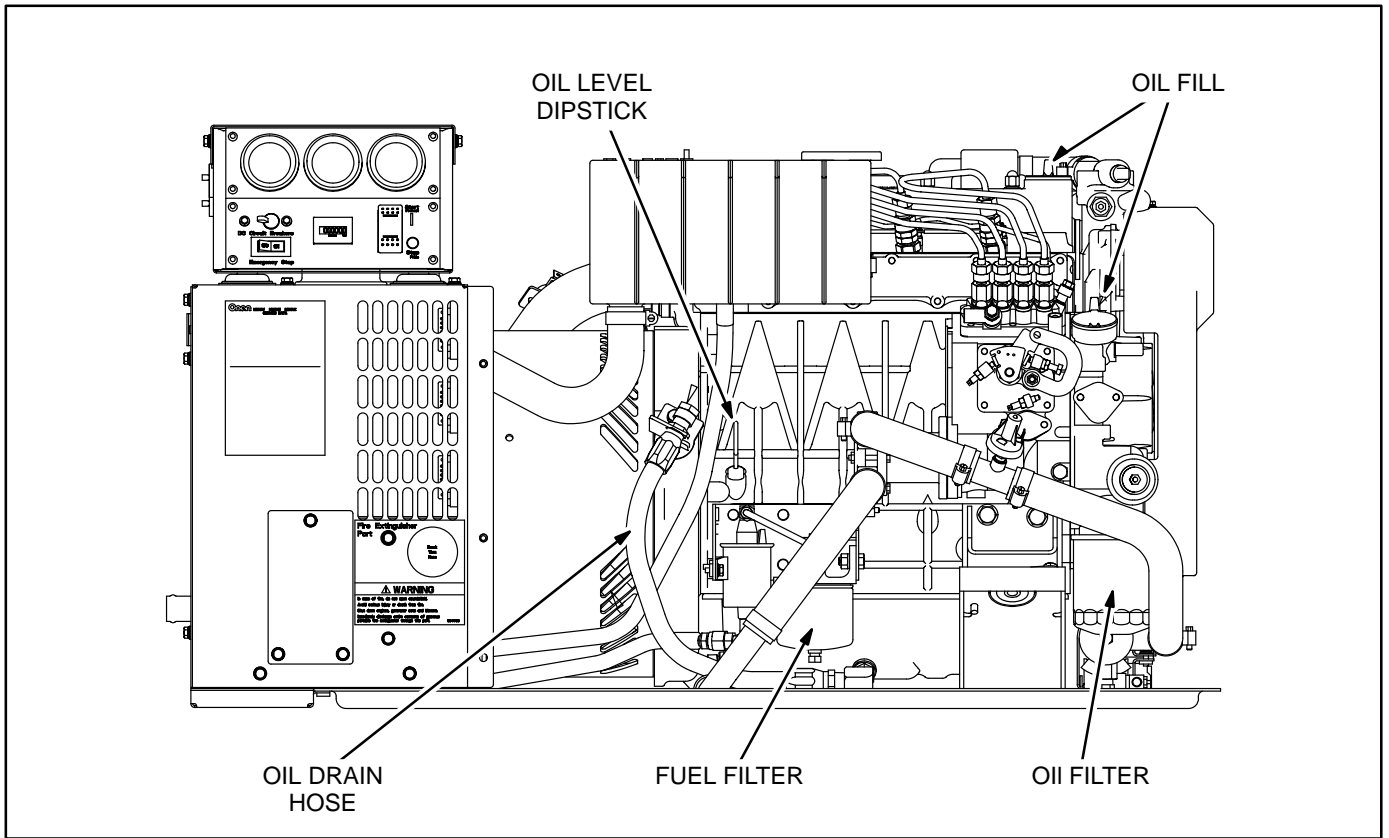

FIGURE 6. OIL AND FUEL SERVICE POINTS—MDKAV, MDKBG, MDKAW, MDKAZ
1. Remove, wipe off and reinsert the oil level dipstick (Figure 6 or 7). Remove the dipstick again and check the oil level.
2. Remove the access door if the genset has an enclosure. Unscrew the plug on the end of the drain hose (Figure 6), if provided, and drain the oil into a suitable container. (Two wrenches are necessary to keep from twisting the hose when loosening and tightening the plug.) If an oil pump-out system is installed, follow the instructions provided.
4. Spin off the old oil filter (Figure 6 or 7) and wipe off the filter mounting surface. (A filter wrench is available from Onan.) Remove the old gasket if it does not come off with the filter.
Fuel Handling Precautions: Keep dirt, water and other contaminants from entering the fuel system and corroding or clogging fuel injection components. The genset has a water separator type of fuel filter (Figure 6 or 7). The fuel supply system should also have a water separator and filter.